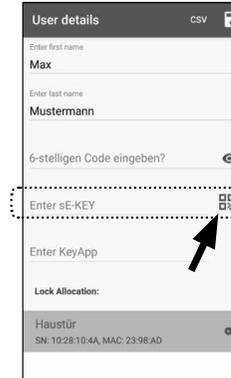

Fig. 33
- Tap the QR code symbol in the "Enter sE-KEY" line in the user menu (Fig. 33).